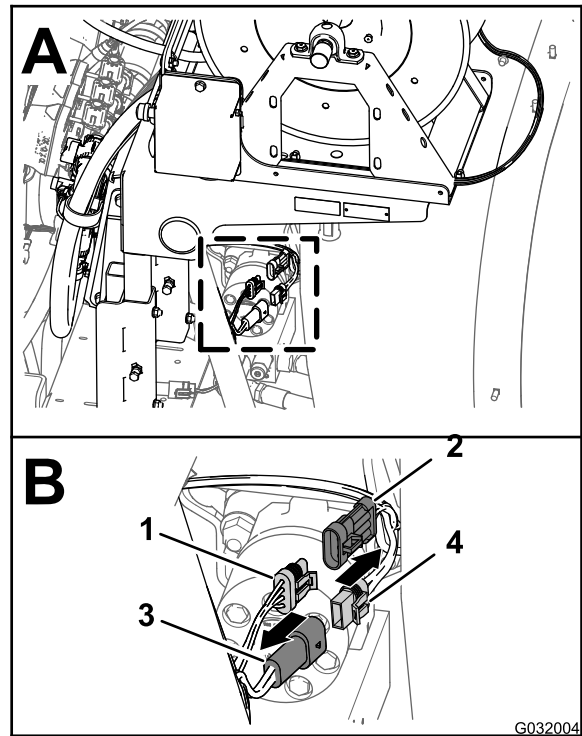

Figure 3
1. At the back of the machine, locate the wire harness for the electric-hose-reel kit at the back of the sprayer tank (A in Figure 3).
2. Disconnect the 2-socket connector of the harness for the electric-hose reel from the 2-pin connector of the rear-main harness (B in Figure 3).
3. Disconnect the 3-pin connector of the harness for the electric-hose reel from the 3-pin socket of the rear-main harness (B in Figure 3).